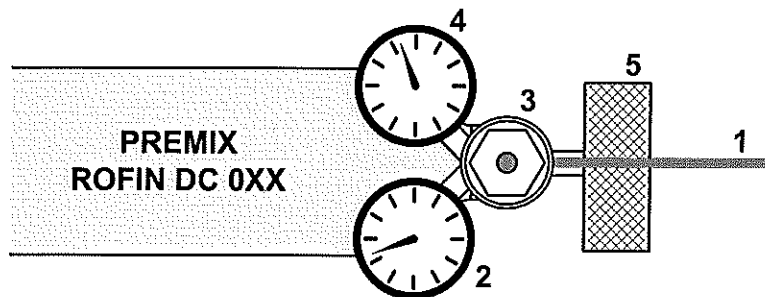

Fig. 7.4.1/1:
- Unscrew and remove the pressure reducer (3) (Fig. 7.4.1/1) from the laser gas bottle.
- Remount the pressure reducer (3) (Fig. 7.4.1/1) onto the laser gas bottle.